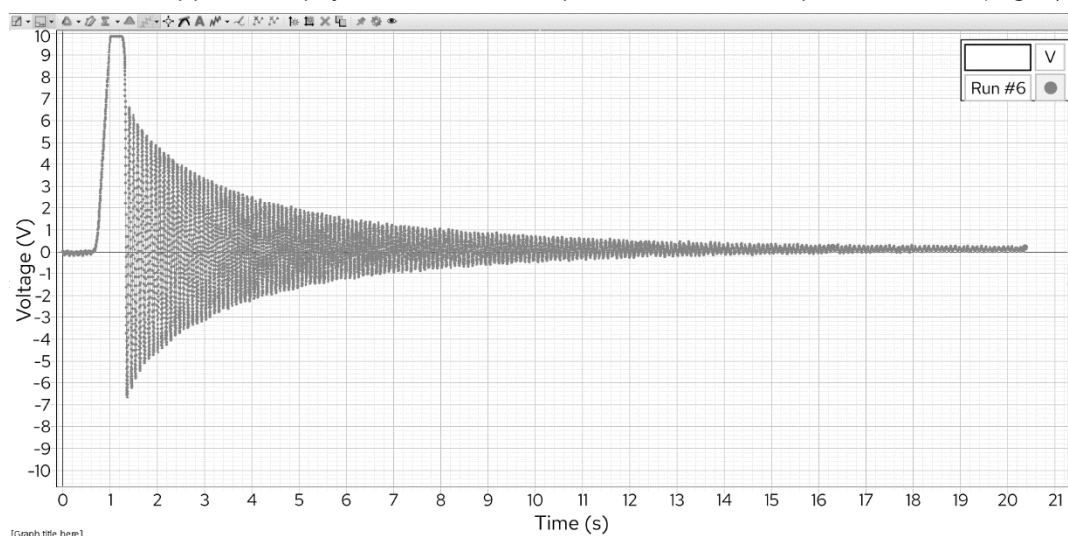

Figure 7. The app graphs the blade's motion as a function of time, with motion converted to voltage (volts) and time in seconds.
- Once the app starts up, you should see sample data from a damped oscillation (Fig. 7).